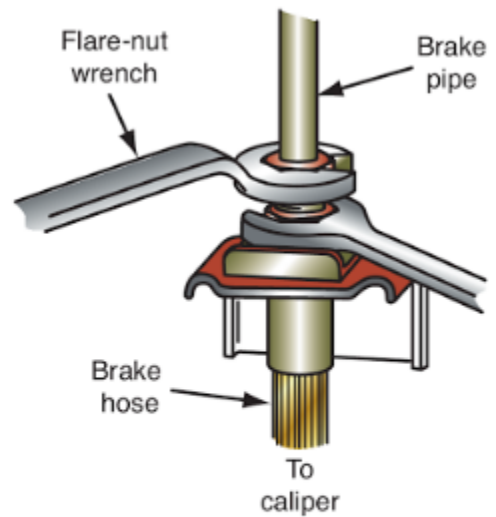

FIGURE 5-10 Use a flare-nut (line) wrench to disconnect the brake line (tubing) from the hose.
2. Use a flare-nut wrench to disconnect the flare nut from the female end of the hose (Figure 5-10) or loosen and disconnect the swivel end of the hose. When loosening one fitting at the end of a hose, hold the mating half of the fitting with another flare-nut wrench, which will make fitting removal easier and prevent damage to mounting brackets and clips.
6. Use a flare-nut wrench to tighten the fitting and hold the hose with another flare-nut wrench to keep it from twisting (see Figure 5-10). Check the colored stripe or the raised rib on the outside of the hose to verify that the hose has not twisted during installation.